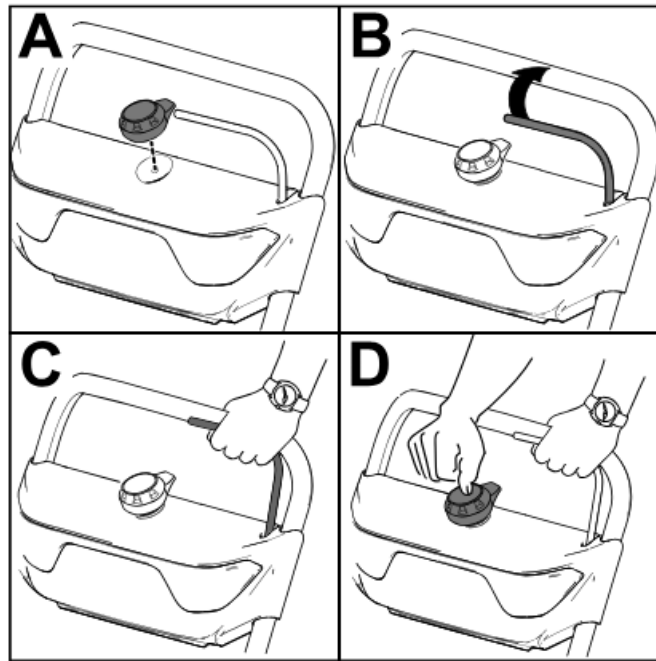

Figure 8
2. Insert the electric-start button into the electric starter (A of Figure 8).
3. Squeeze the bail and hold it to the handle (B and C of Figure 8).
4. Press the electric-start button until the motor starts (D of Figure 8).